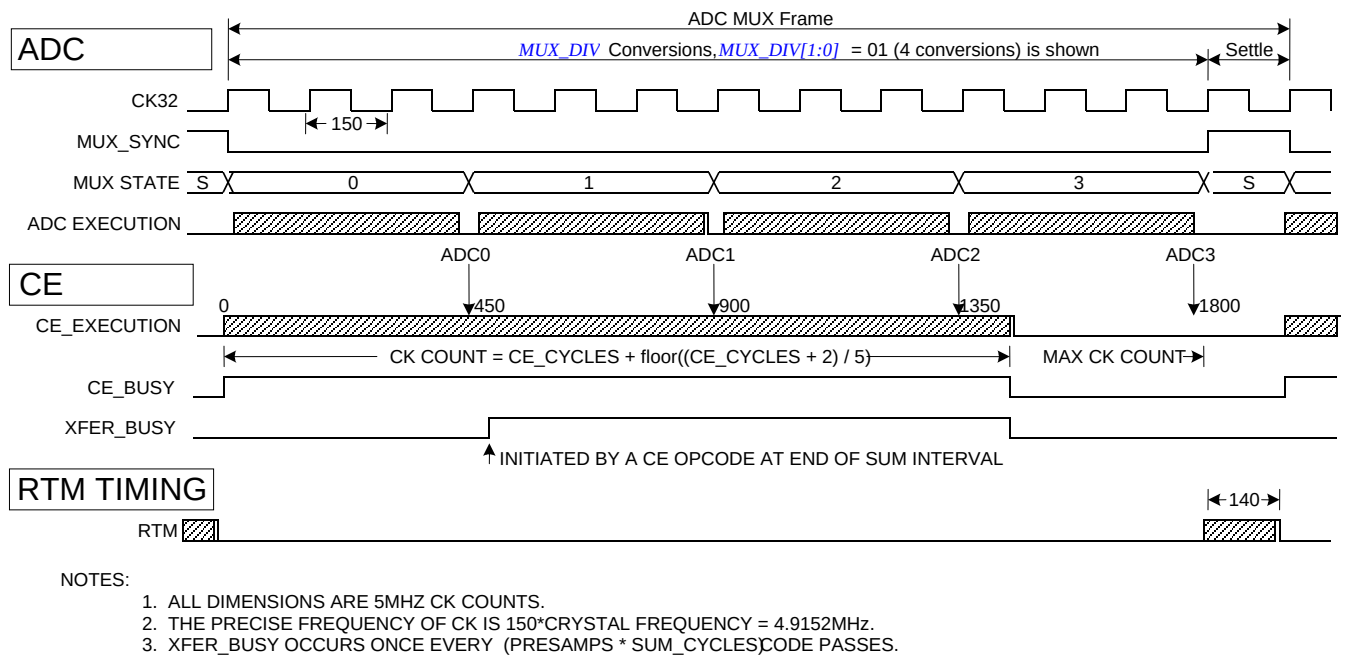

Figure 16: Timing Relationship between ADC MUX, Compute Engine, and Serial Transfers
Figure 16 summarizes the timing relationships between the input MUX states, the CE_BUSY signal, and the two serial output streams. In this example, $MUX_DIV[1:0] = 4$ and $FIR_LEN = 1$ (384). The duration of each MUX frame is $1 + MUX_DIV[1:0] * 2$ if $FIR_LEN = 0$ (288), and $1 + MUX_DIV[1:0] * 3$ if $FIR_LEN = 1$ (384). An ADC conversion will always consume an integer number of CK32 clocks. Followed by the conversions is a single CK32 cycle where the bandgap voltage is allowed to recover from the change in CROSS.
Each CE program pass begins when ADC0 (channel 1A) conversion begins. Depending on the length of the CE program, it may continue running until the end of the ADC3 (VB) conversion. CE opcodes are constructed to ensure that all CE code passes consume exactly the same number of cycles. The result of each ADC conversion is inserted into the CE DRAM when the conversion is complete. The CE code is written to tolerate sudden changes in ADC data. The exact CK count when each ADC value is loaded into DRAM is shown in **Figure 16**.
Figure 16 also shows that the serial RTM data stream begins transmitting at the beginning of state 'S.' RTM, consisting of 140 CK cycles, will always finish before the next code pass starts.